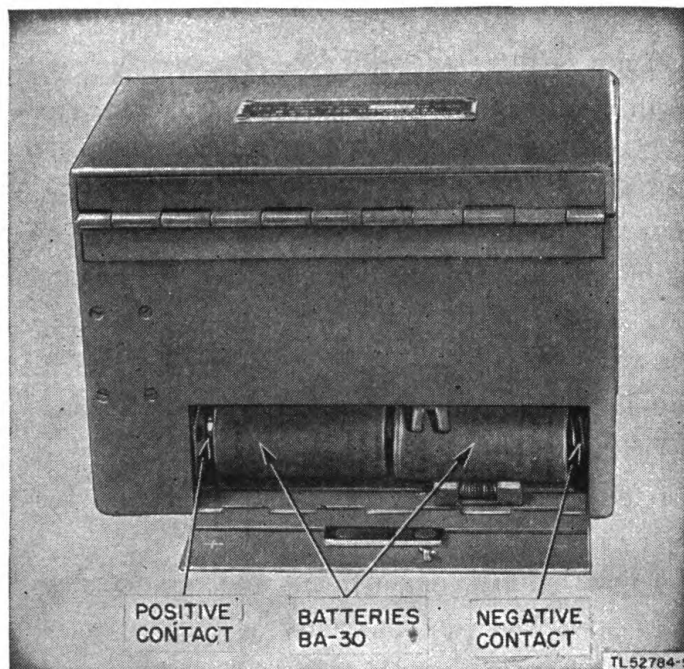

Figure 17. Batteries BA-30 installed in Telegraph Set TG-5-B.
b. INSTALLING BATTERIES BA-30 (fig. 17). (1) Open the battery compartment in the rear of the telegraph set.
(2) Place one Battery BA-30 in the battery compartment so that the bottom (negative contact) is against the spring mounted on the right side of the compartment.
(3) Place a second Battery BA-30 in the compartment so that the bottom presses against the positive contact of the first battery installed and the positive contact presses against the flat metal spring on the left side of the compartment.